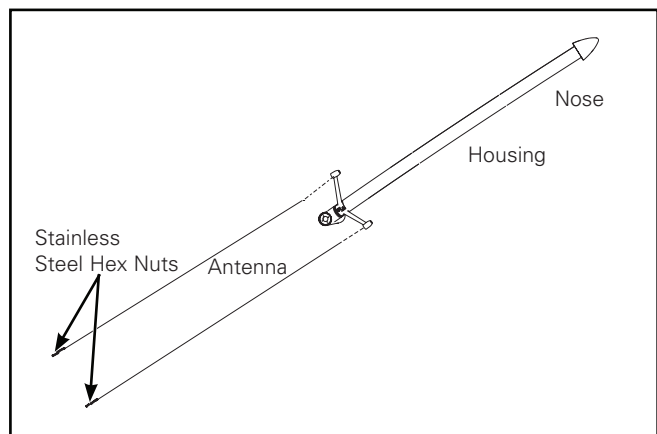

Figure 2.
2. Insert 2 x 1/4" x 96" antennae rods through support ends and thread into tapered hole located in luminaire nose piece. Secure into supports with 2 X 1/4" 20 Hex Nuts. (Figure 2.)